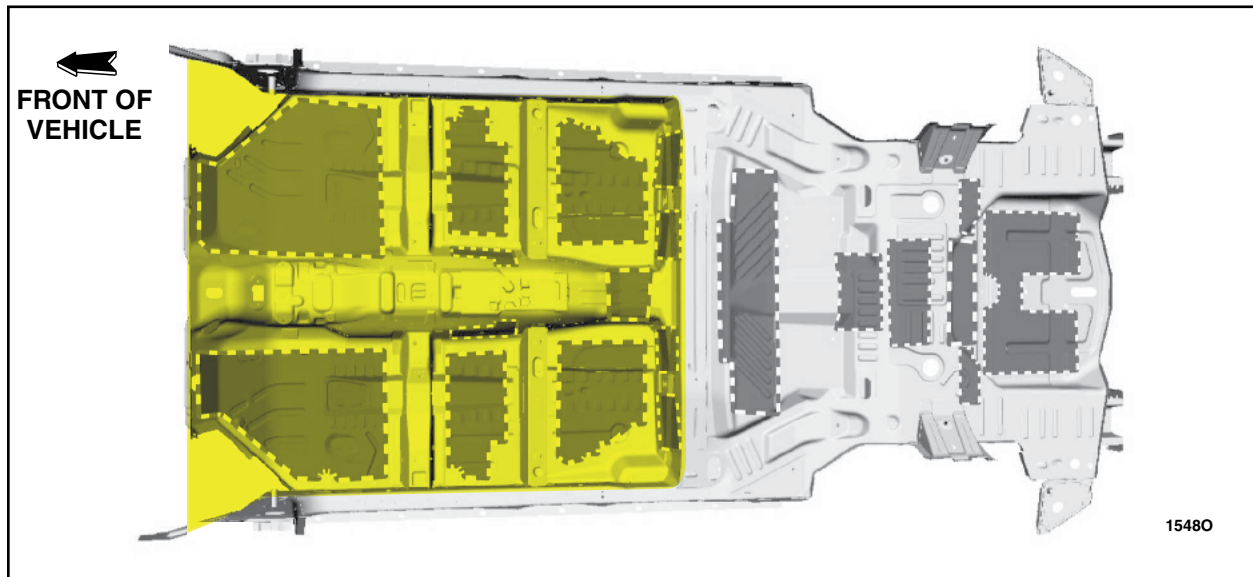

FIGURE 19
32. Cover all electrical connectors and electrical components in the spray area shown in Figure 19.
33. Spray the bulkhead and front/rear floor pan areas within the vehicle using the disinfectant spray (highlighted area). See Figure 19.